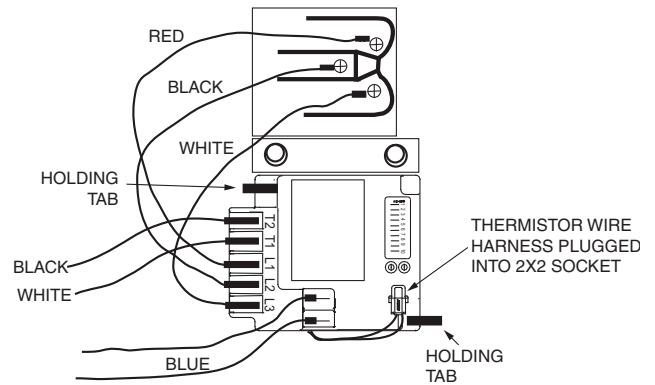

Fig. 164 — CoreSense Communication Module Mounting
- Install the CoreSense module in the compressor terminal box as shown in Fig. 164, with the tabs holding the module in place. Route the thermistor wire harness as shown and plug the harness into the 2x2 socket on the CoreSense module.